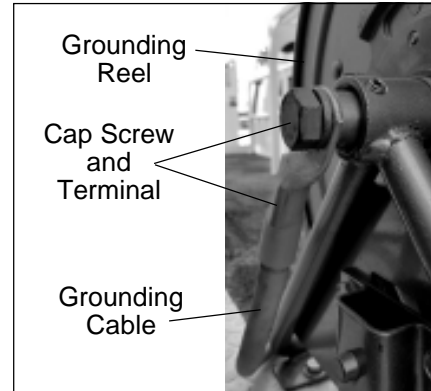

Figure 2 — Grounding Cable
3. Remove the cap screw attaching the cable to the hose reel (refer to Figure 2). Inspect the terminal on the end of the cable.